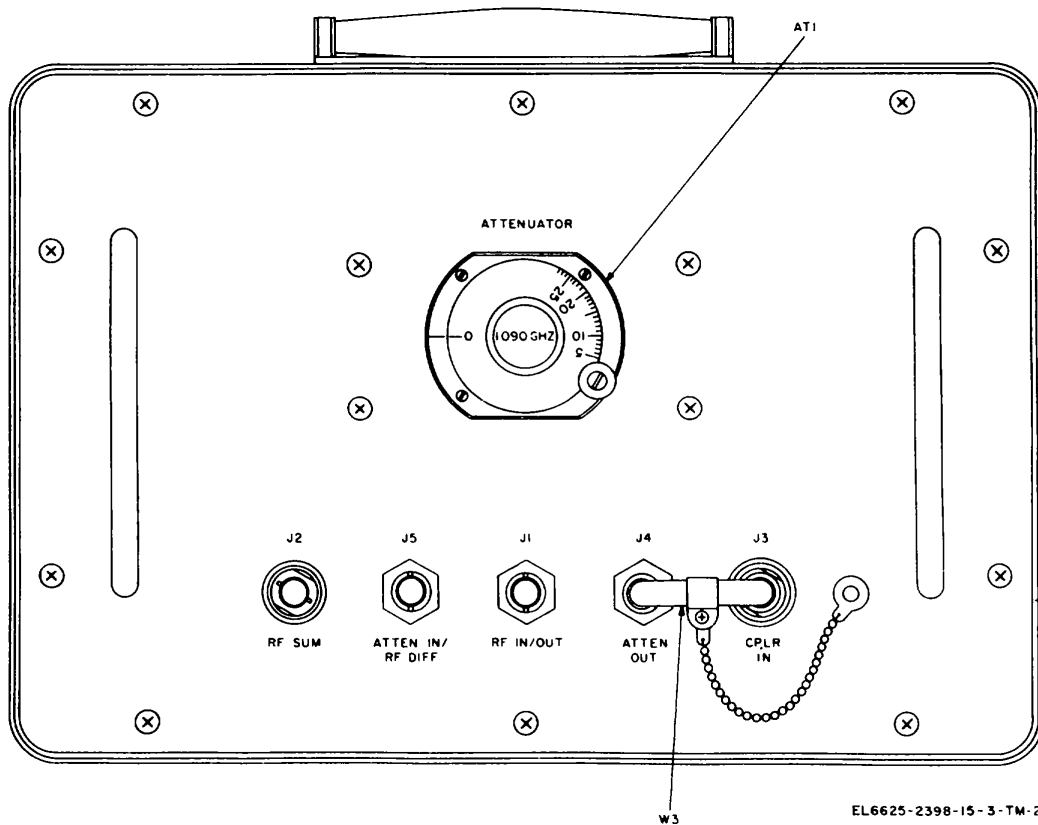

Figure 3-2. Front panel test adapter A6, operating control and connectors.
**3-2. Front Panel Test Adapter A6, Operating Control and Connectors** (fig. 3-2)